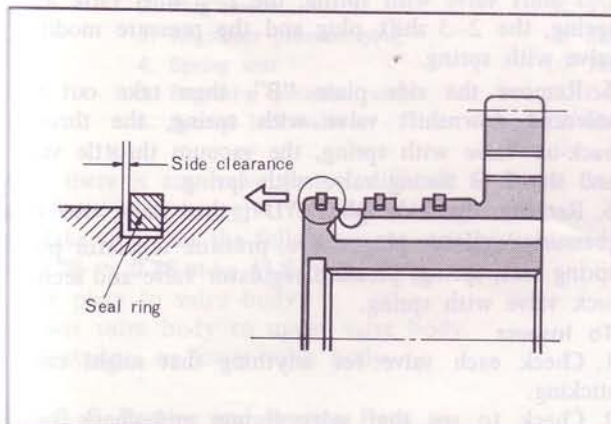

Fig. 7A-38 Clearance of oil seal ring
3. Check the side clearance between the sealing and groove as shown in Fig. 7A-38. The standard clearance is $0.04 \sim 0.16 \text{ mm}$ ($0.002 \sim 0.006 \text{ in.}$). When disassembling the seal ring, squeeze it up so that its joint will rise above the groove, and disconnect the joint.